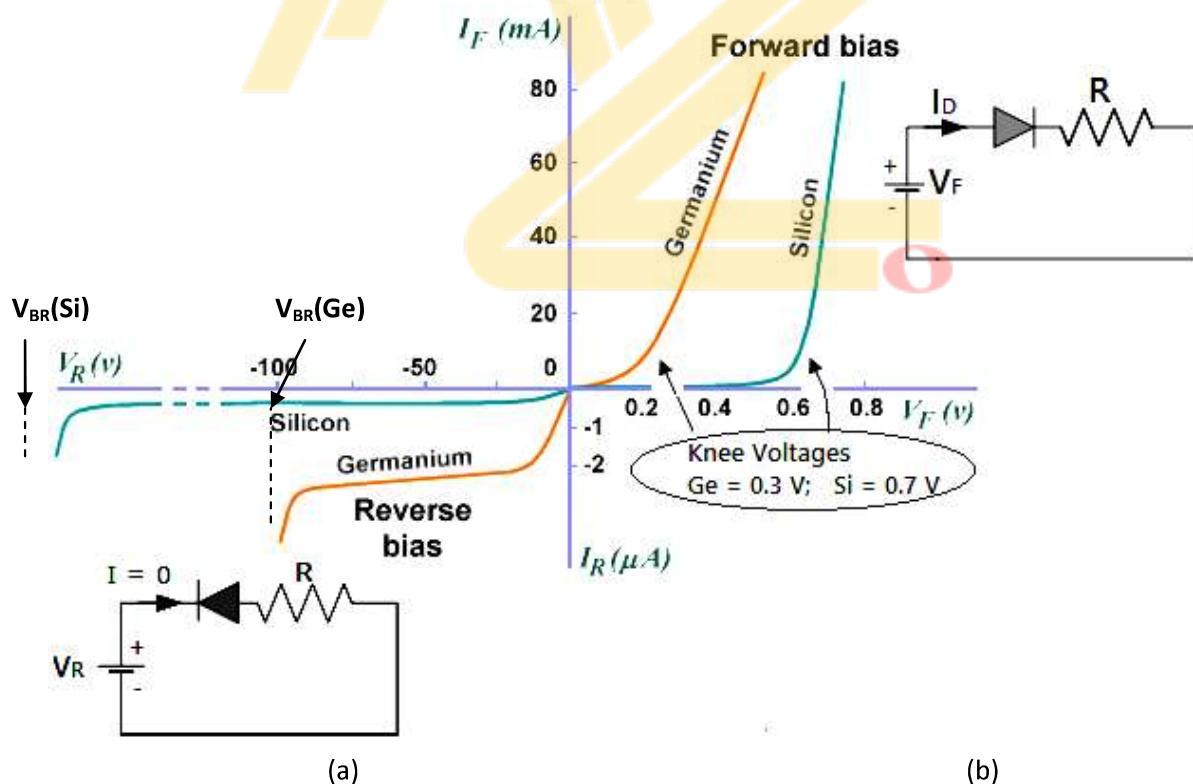

Fig.1.5 V-I characteristics of diode: (a) Forward Biased characteristics (b) Reverse Biased characteristics of Silicon and Germanium diodes
V I means, Volt – Ampere, is an experimental study to analyze graphically the electrical behavior (relationship between voltage and current) of the device. V I – Characteristics of the Diode (shown in fig.1.5) is non-linear (not straight line), because its resistance is not constant.
This is ON mode of diode. P-side is connected to positive (+) and N-side is connected to negative (-) of the battery. From the fig. 1.5(a) the following point are observed.
Comparison of VI characteristics between Silicon and Germanium diode is illustrated in the fig. 1.5.
This is OFF mode of diode. P-side is connected to positive (+) and N-side is connected to negative (-) of the battery. From the fig. 1.5 (b), the following points are observed.
- The majority carrier current is blocked, but very small reverse current called *reverse saturation current* I_S flows due to minority charge carriers (see fig. 1.5 (b)).